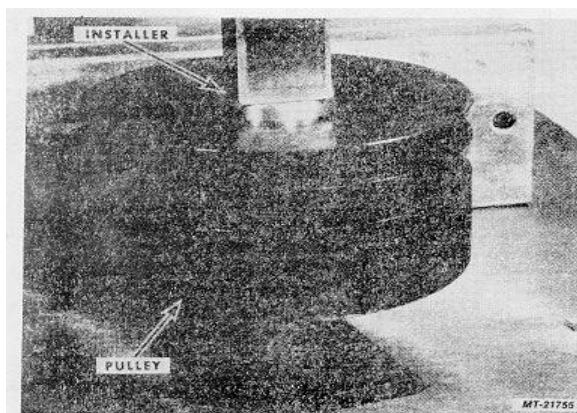

Fig. 63
26. Align Oil Seal straight with the bore and press the Oil Seal down until the Installer SE-2782-4 bottoms, Fig. 63. After the Installer bottoms, rotate the Pulley Retainer to several different positions, each time pressing down to insure proper seating of the Installer. Note an oil seal will not align itself during installation into a bore. If the oil seal is misaligned before it is installed, it will remain misaligned and will leak.